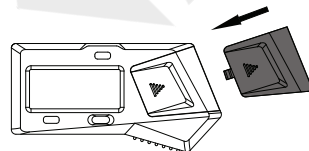

fig.3
---Close the battery cover (fig.3)